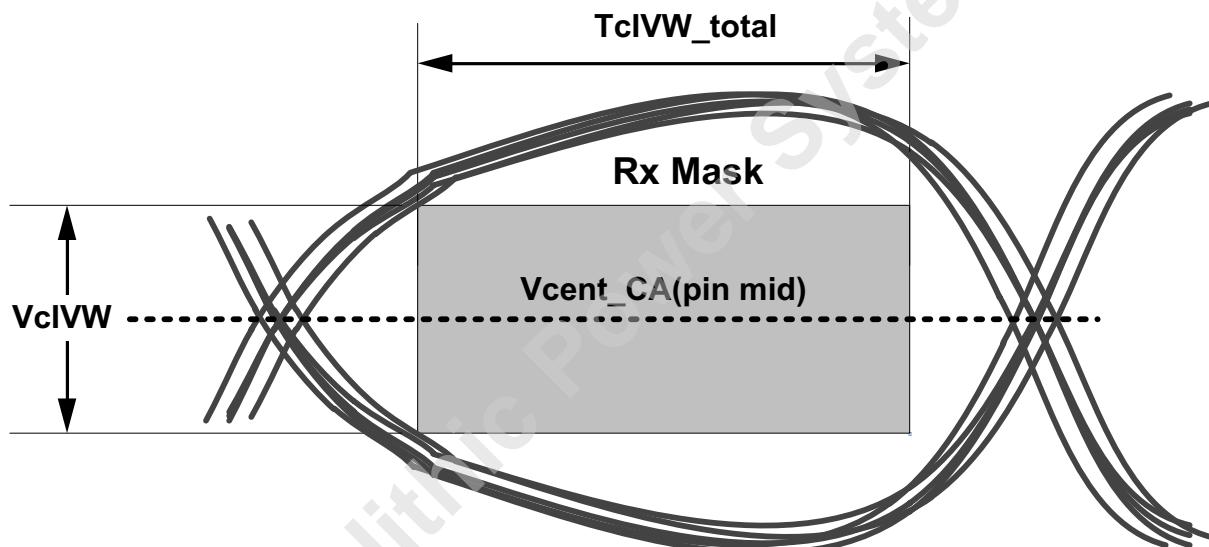

Figure 211 — CA Receiver (Rx) Mask
The command and address (CA) including CS input receiver compliance mask for voltage and timing is shown in **Figure 211**. All CA signals apply the same compliance mask and CS signal applies its own compliance mask independently. All signals applied to the compliance mask operate in single data rate mode.
The CA input receiver mask for voltage and timing as shown in **Figure 211** is applied across all CA pins. The receiver mask (Rx Mask) defines the area that the input signal must not encroach in order for the DRAM input receiver to be expected to be able to successfully capture a valid input signal; it is not the valid data-eye.